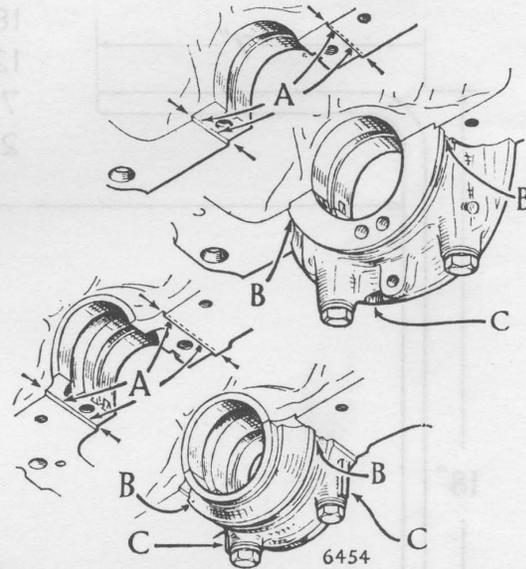

Fig. 12. Places at which to use jointing compound on main bearing caps.
be put into the recesses (B) into which the ends of these joints fit. See Fig. 12.
When dealing with difficult cases of oil leakage, the front and rear main bearing caps should be removed and "Wellseal" or other suitable non-setting jointing compound applied along the front and rear main bearing recess vertical locating faces (A) as shown in Fig. 12. On replacing the main bearing caps the jointing compound is trapped in the small corner clearance between the outside edges of the bearing caps and the corner of the locating recess. This prevents oil leakage along the small clearance that must exist at these points and along which oil sometimes leaks.
The identification marks, shown by (c) in Fig. 12 show that THIN semi-circular cork joints of .150—.160 ins. (3.8—4.0 mm.) are used.